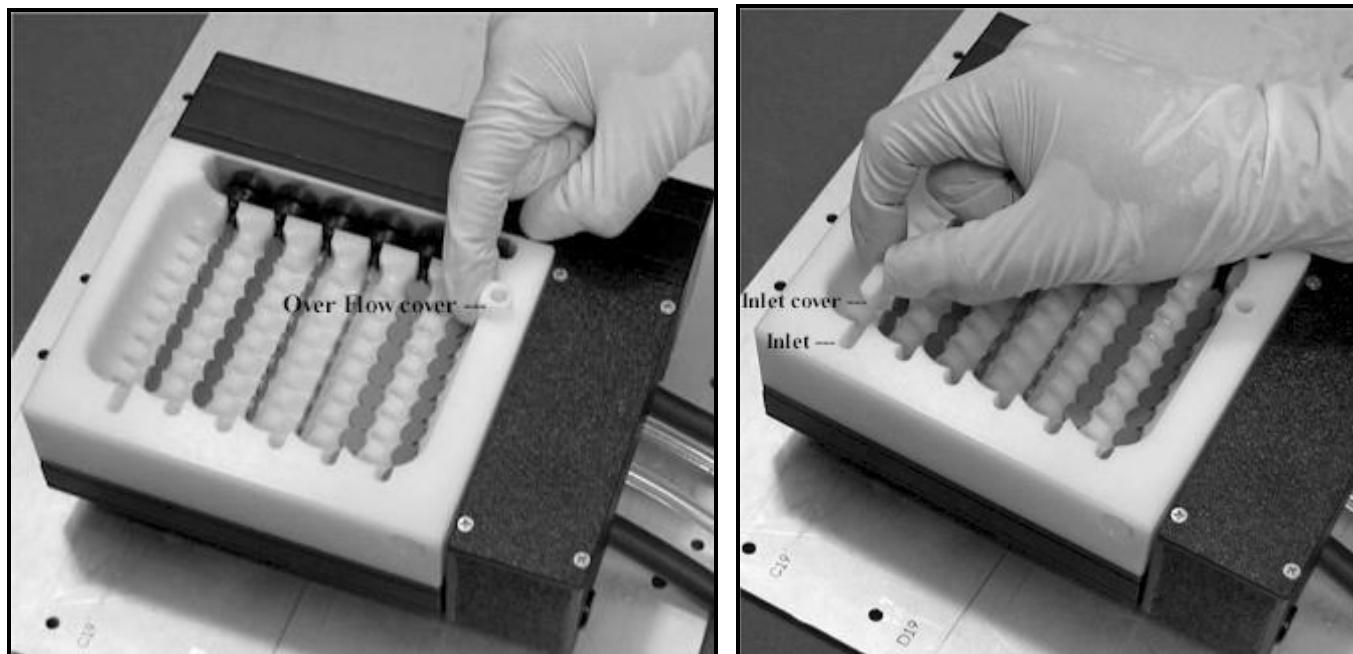
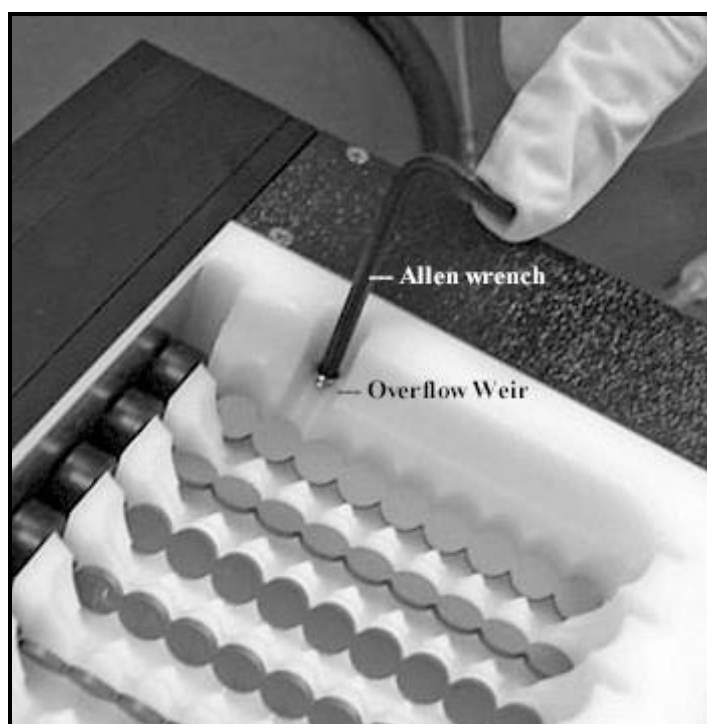

Figure 4. Illustrates the placement of the overflow weir cover on the weir and the inlet cover in the inlet in static operation.
Figure 5. Illustrates how to adjust the fluid level by screwing the hollow overflow weir up or down.
4. Connect the inlet and outlet tubing to the reservoir fittings and adjust the reservoir liquid level by turning the hollow overflow weir screw up or down with the provided Allen wrench, see Figure 5. If you are not going to be continuously adding solution, adjust the overflow weir to the highest level and place the inlet and overflow covers to prevent particulates from collecting in these areas as shown in Figures 4.